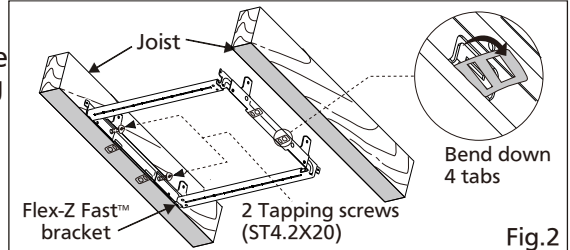

Fig.2
2. Bend down 4 tabs for positioning; install the Flex-Z Fast™ bracket to joists by using the 2 pre-installed tapping screws. (Fig.2)